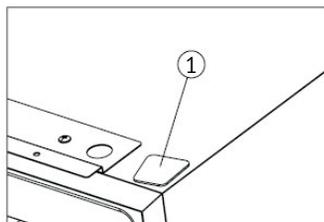

Figure 4
➔ Install the germinal lid ① (Figure 4).